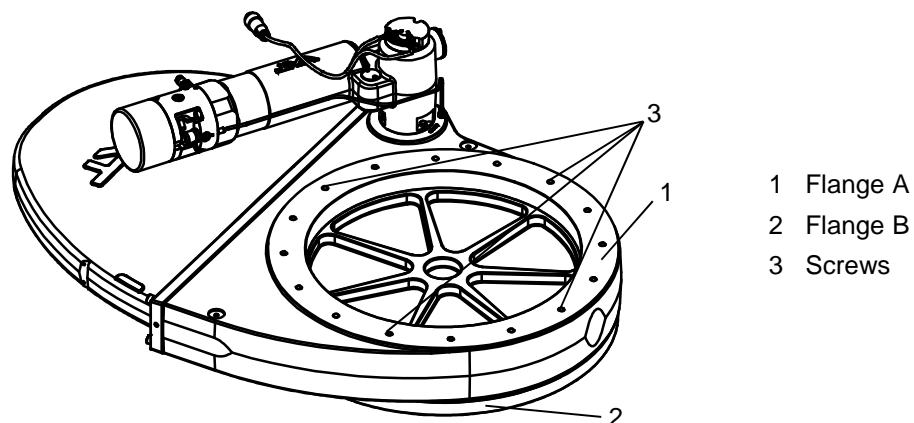

Figure 4-1
see (1) and (2) according to «Figure 4-1».
4. Mount the four screws (3) according to «Figure 4-1», evenly in crosswise order until the seal touches the sealing surface.